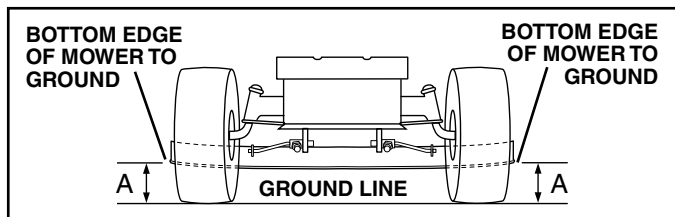

FIG. 15
**SIDE-TO-SIDE ADJUSTMENT** (See Figs. 15 and 16)